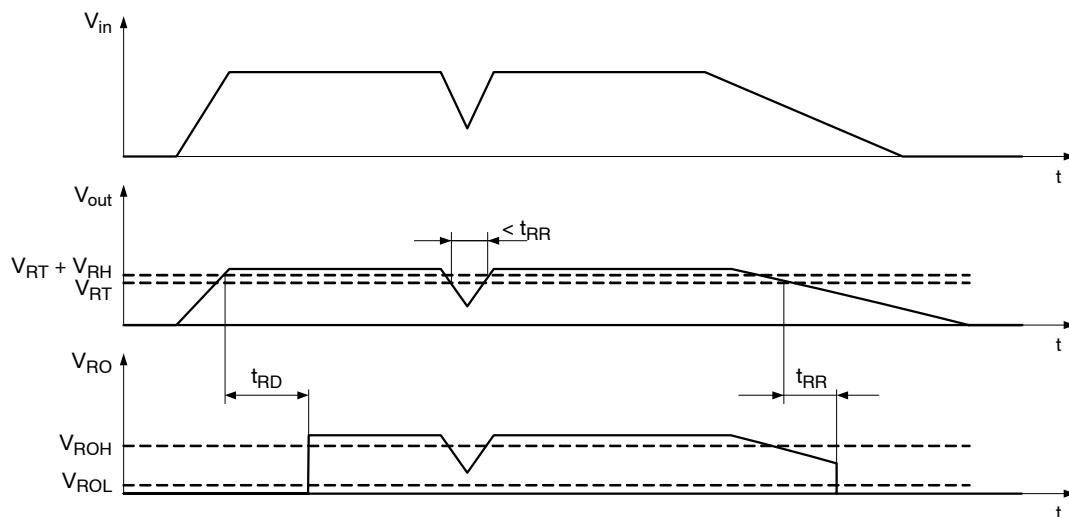

Figure 31. Reset Function and Timing Diagram
A reset signal is provided on the Reset Output (RO) pin to provide feedback to the microprocessor of an out of regulation condition. The timing diagram of reset function is shown in Figure 31. This is in the form of a logic signal on RO. Output voltage conditions below the RESET threshold cause RO to go low. The RO integrity is maintained down to  $V_{out} = 1.0$  V. For 5 V voltage option, the Reset Output (RO) circuitry includes internal pull-up (30 k $\Omega$ ) connected to the output ( $V_{out}$ ). No external pull-up is necessary. For voltage options and 3.3 V RO is open drain output and external pull-up resistor is required. Select pull-up resistor in range between 5 k $\Omega$  to 100 k $\Omega$  with respect to  $I_{ROmax}$  and  $I_{ROLK}$  limits to keep  $V_{RO}$  logic levels at appropriate range.